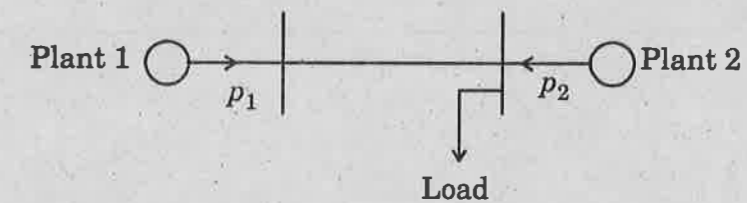

Fig. 4.
16. For the two bus system shown in Fig. 4, of 100 MW is transferred from plant 1 to the load, a transmission loss of 10 Mw is incurred. Find the required generation for each plant and the power received by the load when the system  $\lambda$  is Rs. 25 / Mwh.